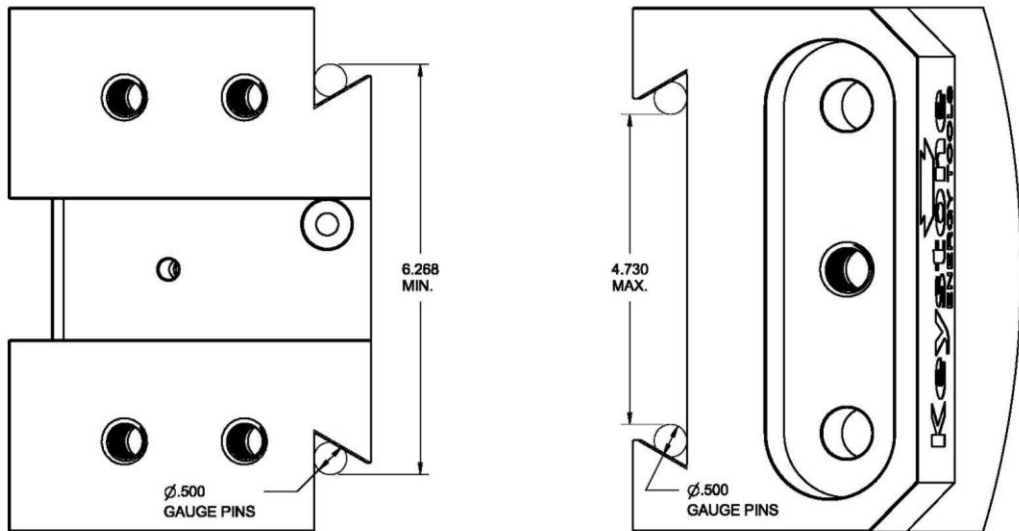

Fig. 39
- Check the slips and bowls for wear. The slips will need to be in the fully extended position “Slips UP” (see fig. 39).